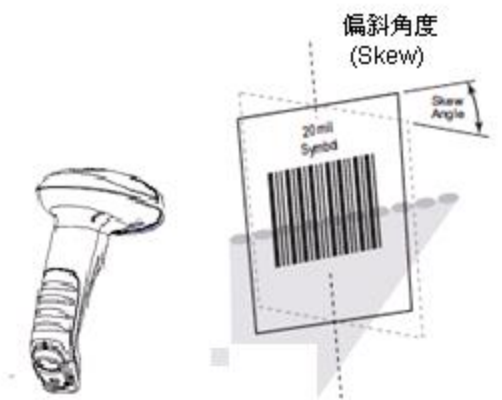

Fig. 1-15
- ◇ Skew:  $\pm 55^\circ$ ,  $0^\circ$  Roll and  $0^\circ$  Pitch (Fig. 1-15)